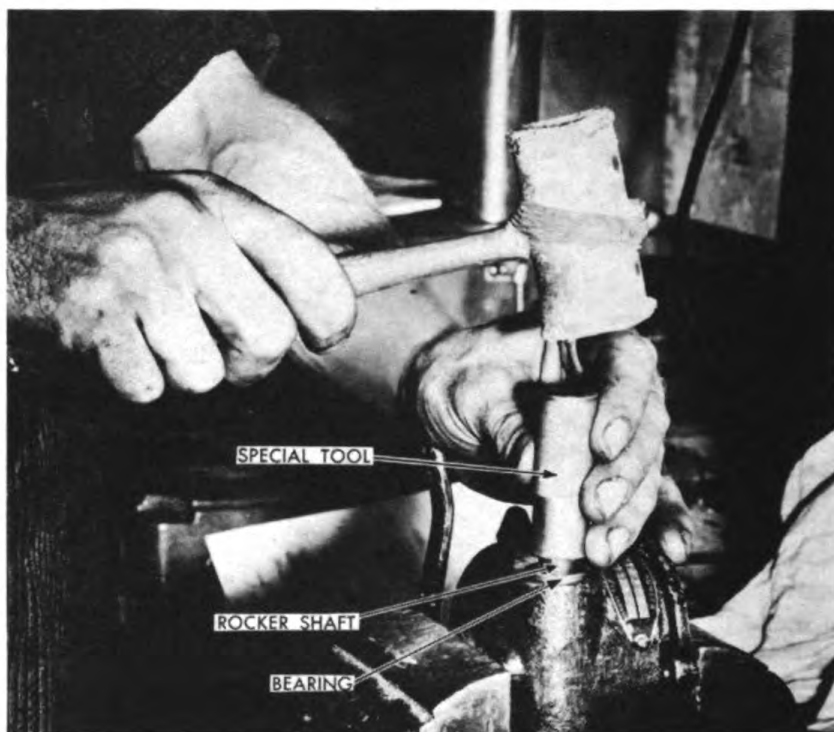

Figure 315. Seating Governor Bearing into Body.
- c. Place the snap rings on the rocker shaft and place shaft in the body without the bearings. Assemble the yoke to the shaft. Press the rocker shaft bearings on each end of the shaft by hand with the lettering on the bearing outside. These bearings must be seated against the shoulder in the casting, and this operation requires a simple tool or short piece of tubing. The rocker shaft is approximately $\frac{7}{16}$ " in diameter, and the seating tool is made from a piece of $\frac{7}{8}$ " -OD round stock with $\frac{15}{32}$ " hole drilled through the center. The body is placed in a vise, and bearings seated by placing the tool over the shaft and driving with a rawhide mallet. The bearing must not be cocked in the hole and when seated in position, the shoulder in the casting with the bearing retainer will be just above the top of the bearing. See figure 315. Oil seal felt should be placed in the bearing retainer, and the retainer and washer spacer slipped over the rocker shaft and tapped into position with a hammer. The retainer is then seated against the shoulder in the casting with the same tool used for the installation of the bearing. After installation of the rocker shaft, check for excessive friction or misaligned bearing by oscillating the shaft with thumb and finger. If the shaft cannot be turned with the thumb and finger, there is too much friction in the mechanism and this will have to be eliminated.